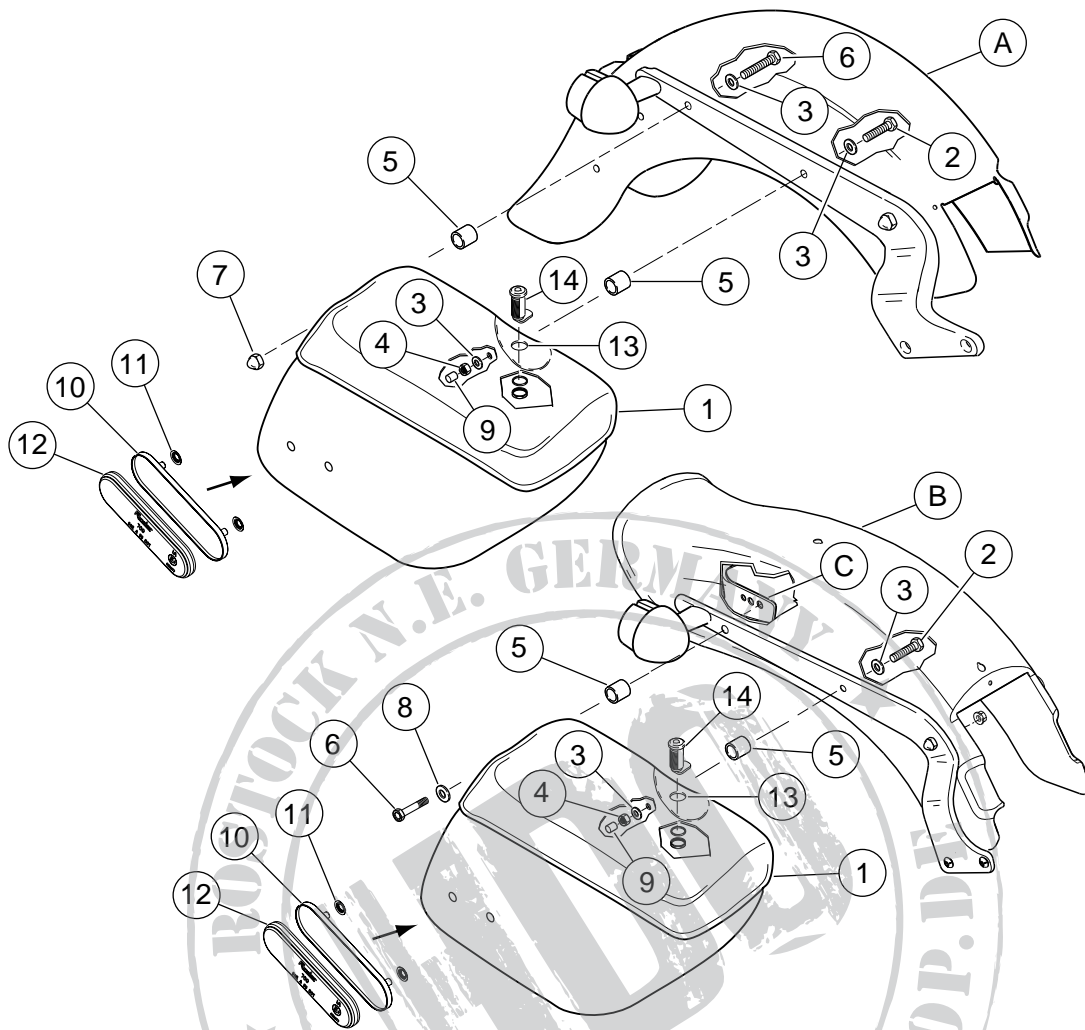
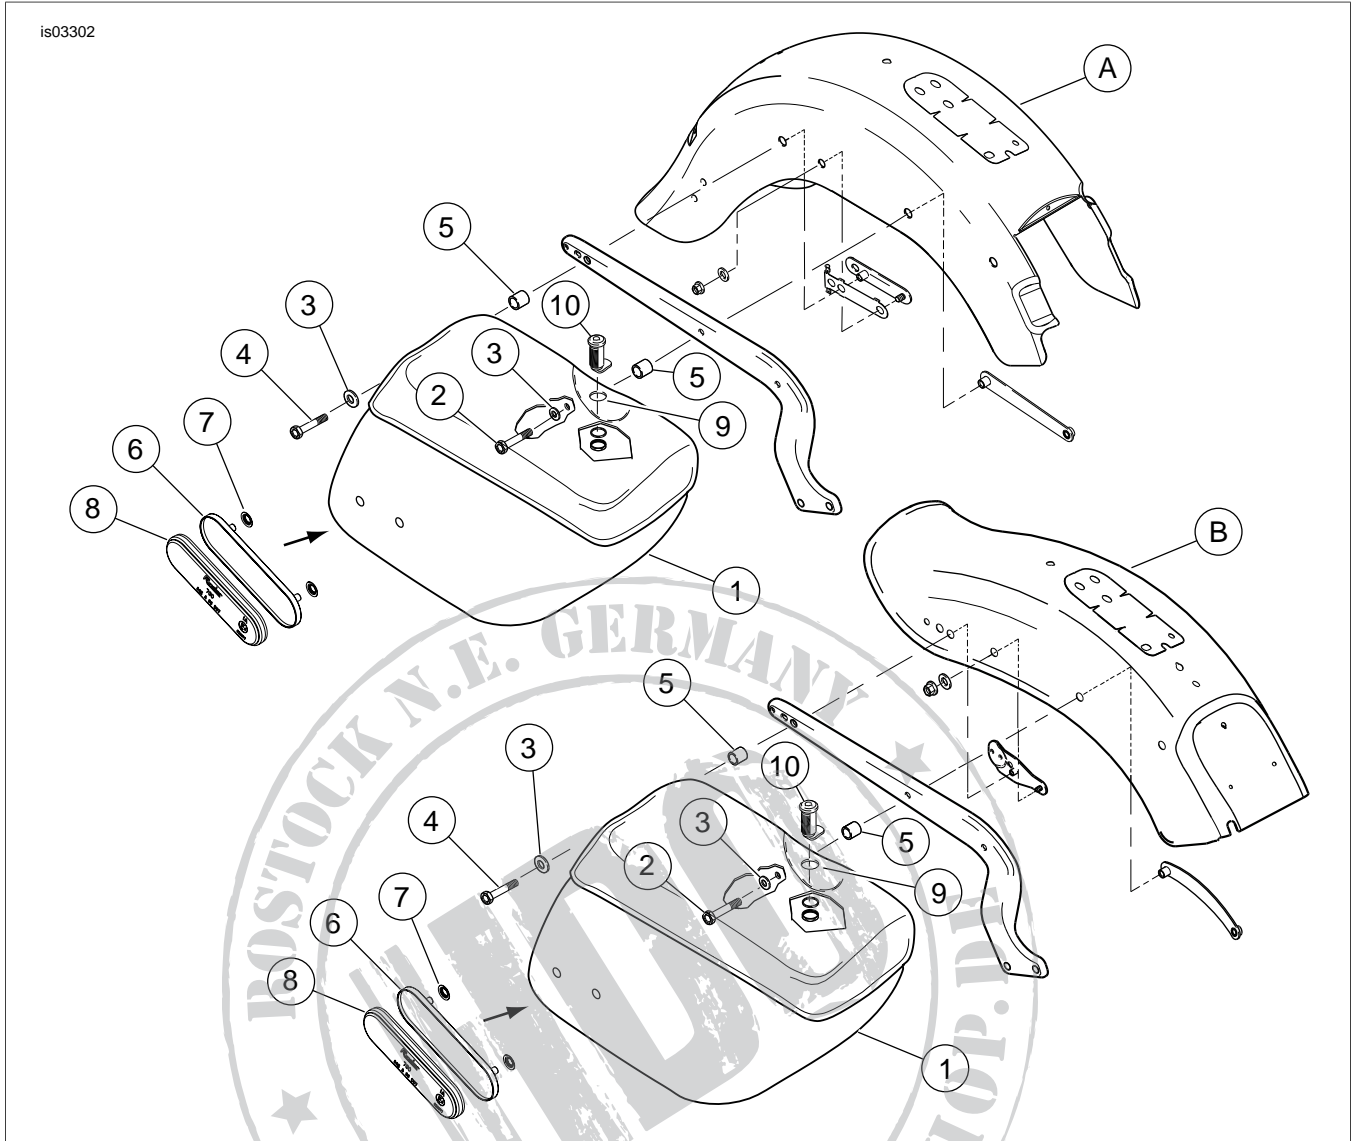

Figure 5. Service Parts: Softail Saddlebag Kit (Installation Shown on 2000-2002 FLST, FXST)
Figure 6. Service Parts: Softail Saddlebag Kit (Installation Shown on 2003-Later FLST, FXST)
- See Figure 5. Attach front of saddlebag (1) to fender as follows:
- Without Spacer Kit:* Use screw (2), washer (3) and nut (4). Hand-tighten to keep in place.
- With Spacer Kit:* Use screw (2), washer (3), nut (4) and spacer (5). Hand-tighten to keep in place.
- Attach rear of saddlebag (1) to fender as follows:
- 5. See Figure 5. Slip thread protector (9) over end of front screw (2).
- 2. *Without Spacer Kit:* See Figure 6. Install front and rear of saddlebag with screw (2, 4) and washer (3). Hand-tighten to keep in place.
1. See Figure 5 and Figure 6. Position reflector mount on lower right corner of saddlebag.